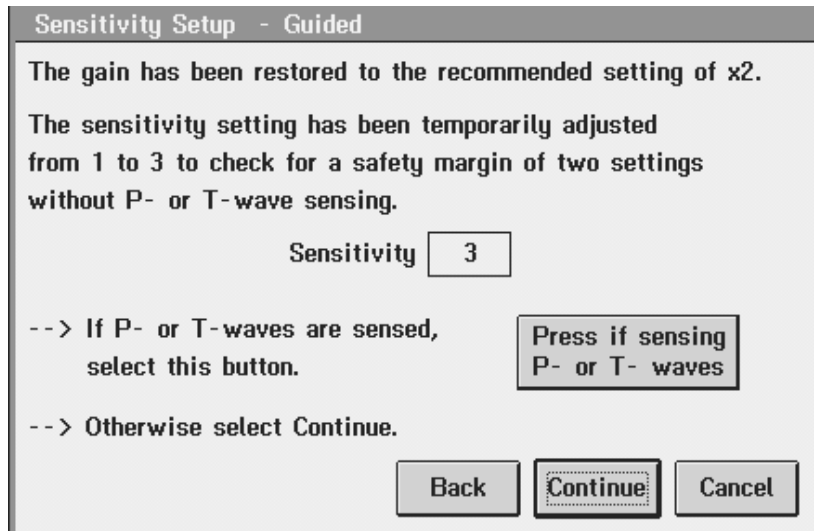

Figure 13. *Sensitivity Setting - Guided - Method 2 (Margin Test)*
3. Press the **[Press if frequently sensing P- or T-waves]** button. The “Sensitivity Setup - Guided” screen is displayed indicating that the programmer has restored the recommended gain setting and has temporarily adjusted the sensitivity setting to check for a safety margin of two sensitivity settings (see Figure 13).